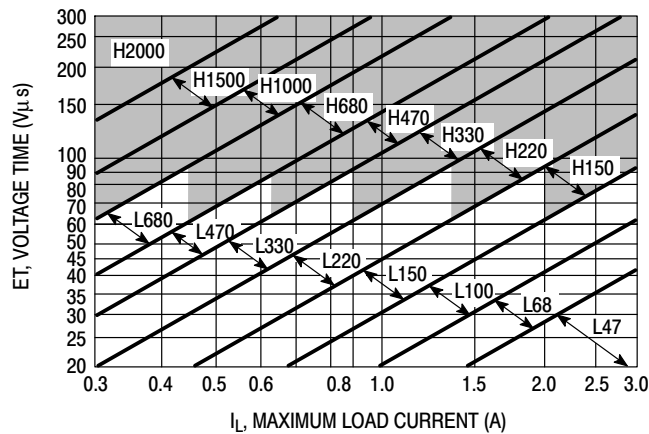

Figure 22. LM2576-ADJ
4. Inductor Selection (L1) A. Use the following formula to calculate the inductor Volt x microsecond [V x μs] constant: $E \times T = (V_{in} - V_{out}) \frac{V_{out}}{V_{in}} \times \frac{10^6}{F[\text{Hz}]} [V \times \mu\text{s}]$ B. Match the calculated E x T value with the corresponding number on the vertical axis of the Inductor Value Selection Guide shown in Figure 22. This E x T constant is a measure of the energy handling capability of an inductor and is dependent upon the type of core, the core area, the number of turns, and the duty cycle. C. Next step is to identify the inductance region intersected by the E x T value and the maximum load current value on the horizontal axis shown in Figure 25. D. From the inductor code, identify the inductor value. Then select an appropriate inductor from Table 2. The inductor chosen must be rated for a switching frequency of 52 kHz and for a current rating of $1.15 \times I_{Load}$. The inductor current rating can also be determined by calculating the inductor peak current: $I_{p(\text{max})} = I_{Load(\text{max})} + \frac{(V_{in} - V_{out}) t_{on}}{2L}$ where t_{on} is the "on" time of the power switch and $t_{on} = \frac{V_{out}}{V_{in}} \times \frac{1.0}{f_{osc}}$ For additional information about the inductor, see the inductor section in the "External Components" section of this data sheet.	4. Inductor Selection (L1) A. Calculate E x T [V x μs] constant: $E \times T = (25 - 8.0) \times \frac{8.0}{25} \times \frac{1000}{52} = 80 [V \times \mu\text{s}]$ B. E x T = 80 [V x μs] C. $I_{Load(\text{max})} = 2.5 \text{ A}$ Inductance Region = H150 D. Proper inductor value = 150 μH Choose the inductor from Table 2.